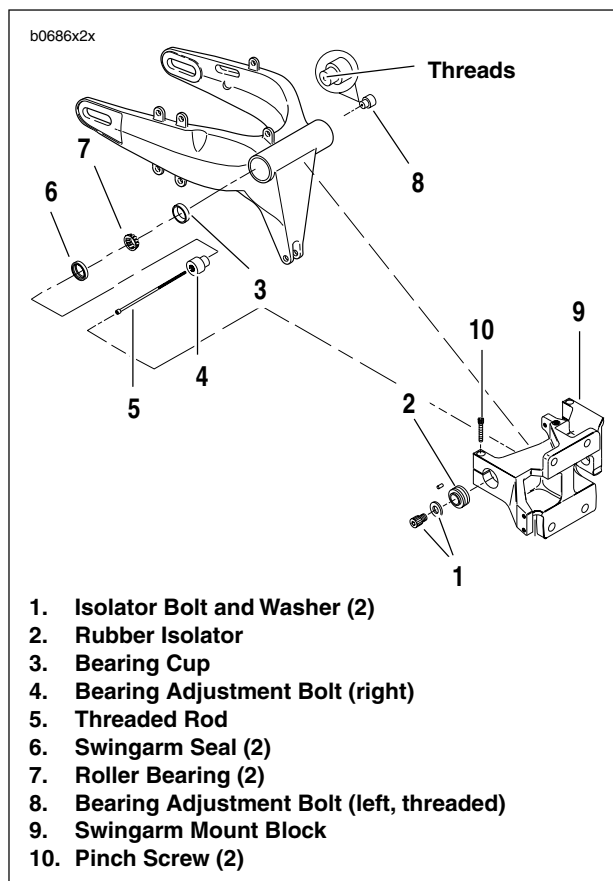
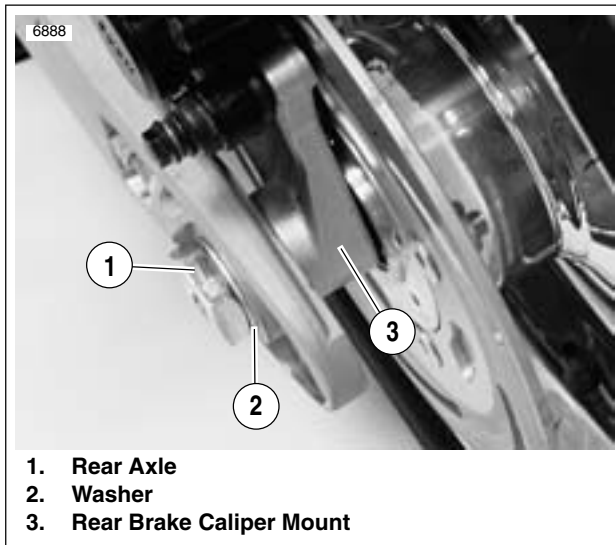

Figure 2-66. Swingarm Assembly (Typical)
Figure 2-71. Checking Preload
7. See Figure 2-66. Remove left and right isolator bolts and washers (1).
1. See Figure 2-66. Remove and discard both swingarm seals (6).
2. Remove roller bearings (7).
3. See Figure 2-66. Install **new** swingarm seals (6) flush to the swingarm.
See Figure 2-66. The left side bearing adjustment bolt (8) has additional internal threads.
- a. Apply LOCTITE THREADLOCKER 222 (purple) to the threaded rod (5).
- b. Insert the rod through the right side bearing adjusting bolt (4).
- c. Install and tighten left bearing adjustment bolt (8) (with internal threads) on left side of swingarm.
- d. Tighten the left pinch screw (10) on the swingarm mount block (9). Do not tighten the right side pinch screw at this time.
1. See Figure 2-66. Align new swingarm between posts on swingarm mount block (9).
3. Tighten left side swingarm pinch screw (10) to 18-20 ft-lbs (24-27 Nm).
4. Install threaded rod (5).
- b. Insert threaded rod through right side bearing adjustment bolt (4) into threads on left side bolt (8).
5. Check swingarm preload using a scale as shown in Figure 2-71. Preload should be 3.0-3.75 lbs (1.36-1.70 kg). If preload does not meet specifications, tighten or loosen threaded rod and recheck.
6. See Figure 2-66. Secure swingarm in place.
- a. Remove both pinch screws (10).
- b. Install isolator bolts and washers (1) through rubber isolators and into bearing adjustment bolts (4, 8).